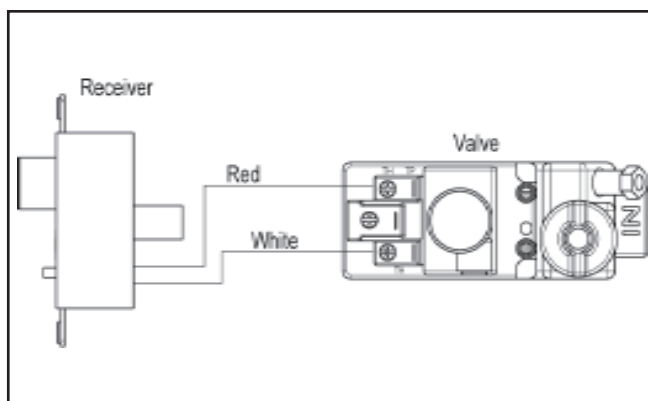

Figure 2 - Attaching the Lead Wires to the Valve
- Connect the two lead wires from the receiver to the two outside terminals on the valve. See Figure 2.
- e. Connect the two lead wires from the RC-BATT-HTL receiver to the outside two terminals on the valve. See Figure 2.
- c. Connect the two lead wires from the receiver to the two outside terminals on the valve. Refer to Figure 2.